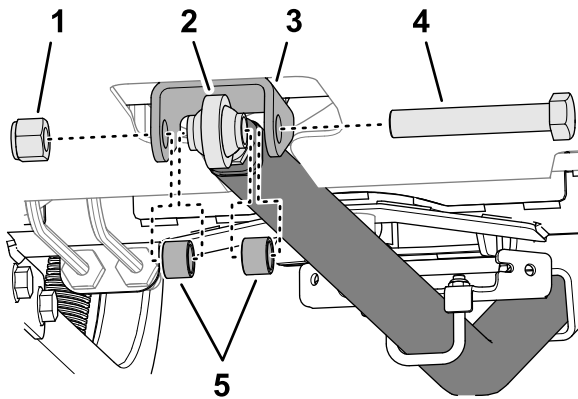

Figure 13
8. Align the hole in the rod end of the drawbar with the holes in the drawbar mount of the rear-frame bulkhead (Figure 13).
9. Assemble the rod end to the mount with the capscrew (3/4 x 4-1/2 inches), 2 spacer, and locknut (3/4 inch) as shown in Figure 13.